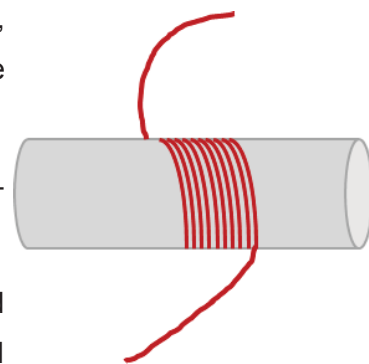

Figure 9: Step 3 reference.
3. Wrap the wire around the syringe making a coil of roughly 15 turns around the body of the syringe. Leave a length of excess wire on each end of the coil (Figure 9).